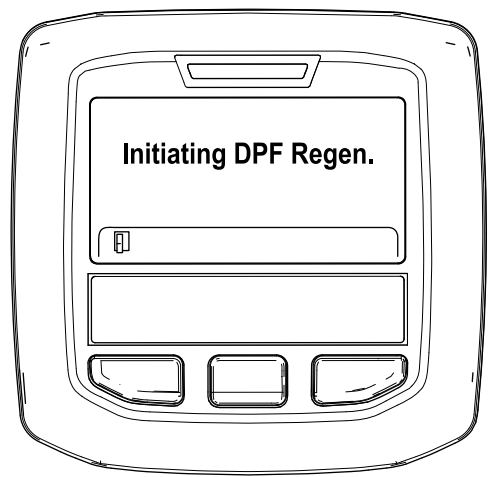

Figure 47
- A. The "Initiating DPF Regen." message displays (Figure 47).